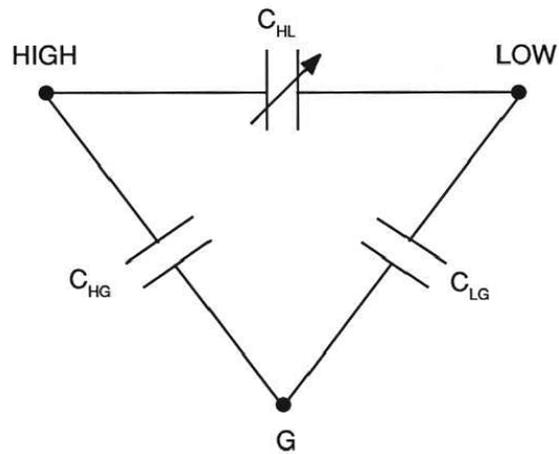

Figure 1-2: Capacitance Shunted by Leakage to case
- The switching scheme described above and shown in Figure 1-2
Figure 1-2 demonstrates the need for the double shielded construction. It shows that a capacitor C_{HL} would be shunted by the series combination of the capacitances from the HIGH and LOW terminals to the case. The net capacitance becomes: